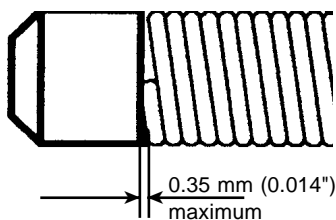

Fig. 8
- a) Ensure exhaust and inlet seats (with inlet valve) are placed in correct locations (ref 4f) and torque tighten to 129 - 143 N m (95 - 105 lbf).
- e) Before fitting new spring assemblies, check that the spring anchor holes are in line and that the spring ends are within 0.35 mm (0.014") of the anchor's shoulder (Fig 8). **The spring ends may lightly touch the shoulders but must not bind against them.** Always use new split pins and washers when replacing springs and reassembling connector shafts.